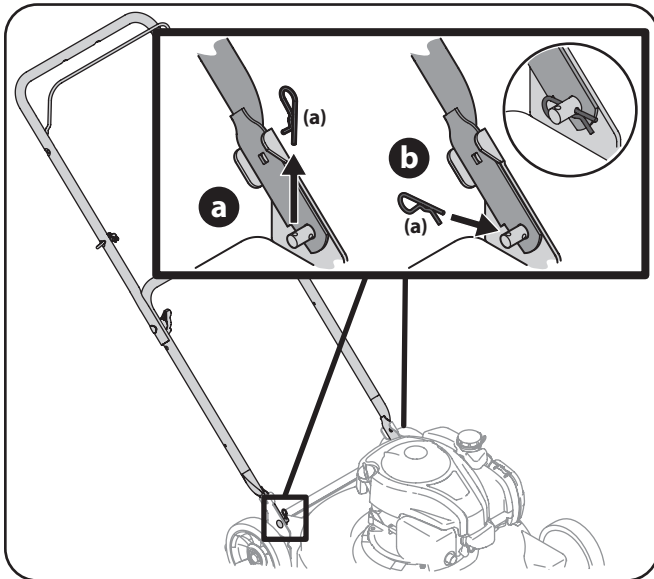

Figure 3-2
- a. Remove hairpin clip (a) from hole at end of stud. See Figure 3-2.